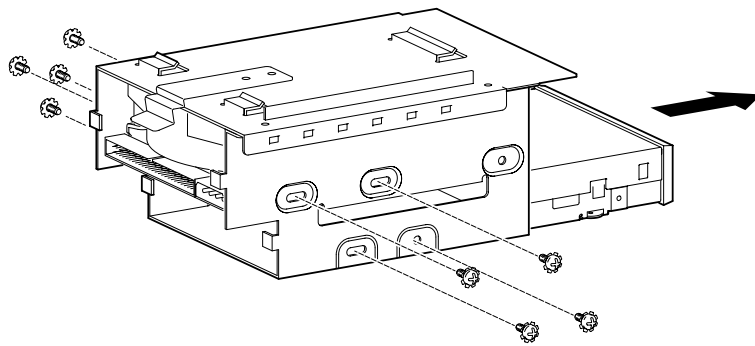

Figure 3-14. Removing the Lower Drive Bay Devices
5. Remove a device by removing the screws on the side and sliding the device out of the lower bay assembly (Figure 3-14).